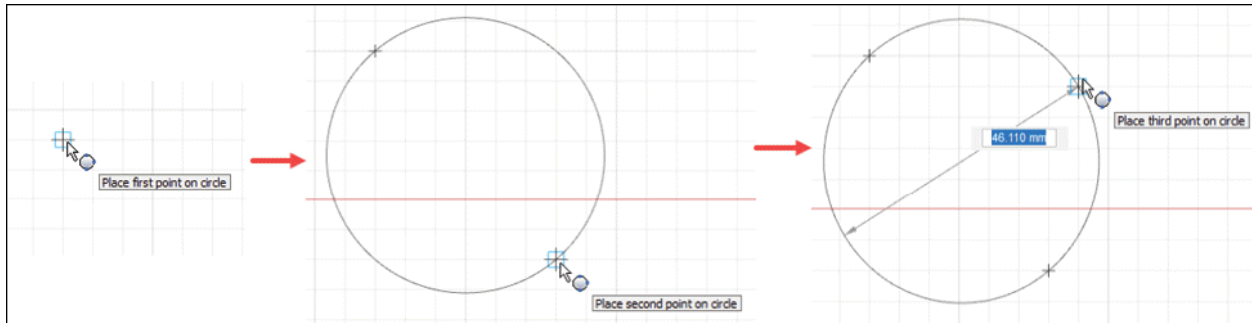

Figure-16. Creation of 3-point circle
- Click on the screen to specify the first point, second point, and third point of circle; refer to Figure-16. Note that you can also select on other entities to define circumferential points for circle.